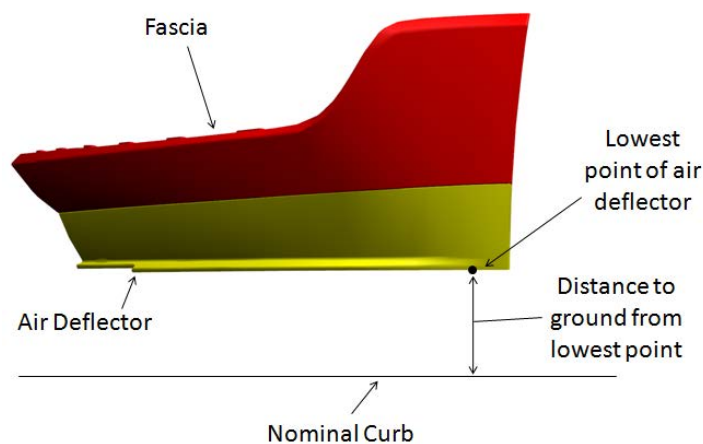

Figure 1: Ground Clearance Determination (Side View Shown)
4.1.3.1 Determine Distance to Ground from Lowest Point. Using math data determine the distance to ground from the lowest point of the air deflector at nominal curb mass that will contact the curb as shown in Figure 1. Document distance in Data Sheet A2.